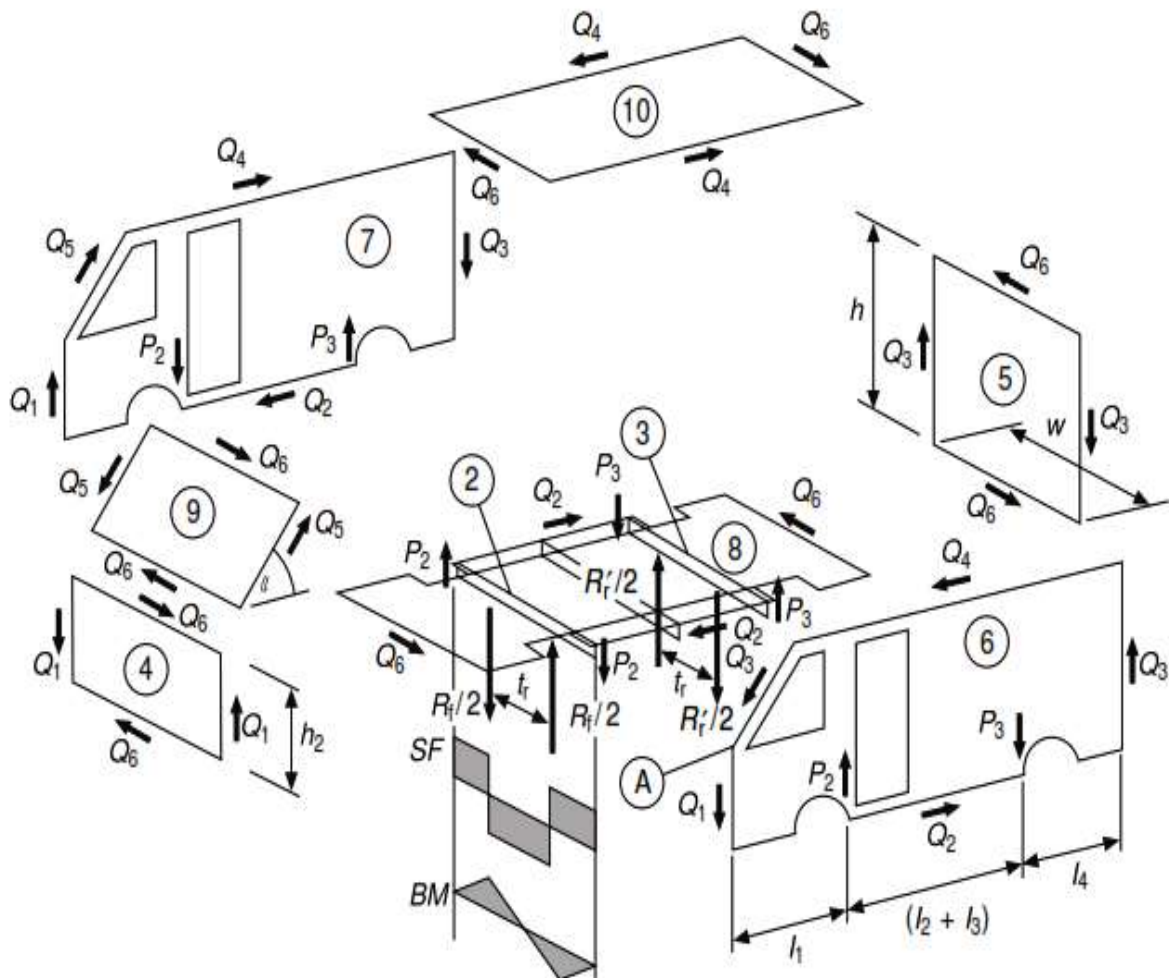

Fig. 2. Simple structural surfaces representing a van structure.
- (c)** Simple Structural Surfaces representing a box van in torsion. The diagram, Figure 2, shows simple structural surfaces representing a van structure. The front and rear track t_f and t_r respectively may be slightly different and the rear axle load R'_r is usually smaller than R_f for a modern passenger car even when fully laden. **07**